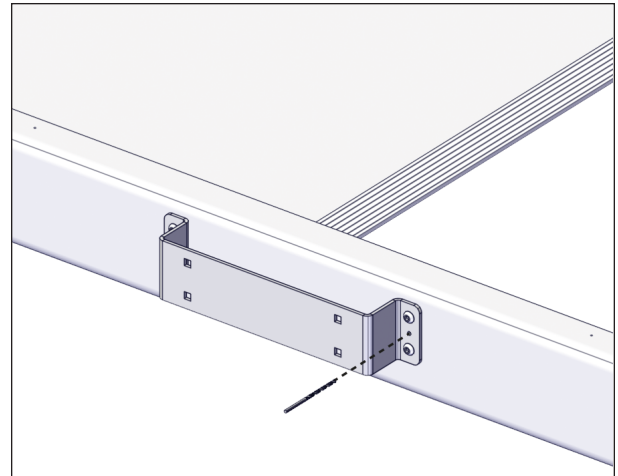
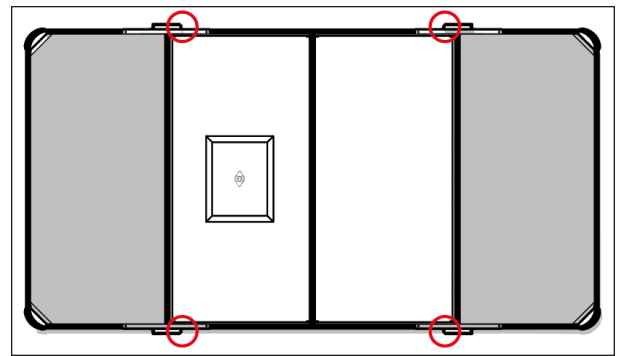

FIGURE 57: DRILL A HOLE BETWEEN BOTH SCREWS
FIGURE 58: INNER SIDE OF EACH POST MOUNT BRACKET
- Drill a hole between both screws on the **inner side** of each post mount bracket, and insert a 8-32 x 3/8" hexagonal slotted thread-cutting screw, see Figure 57 and Figure 58. Use the pre-drilled hole in the bracket as guidance.